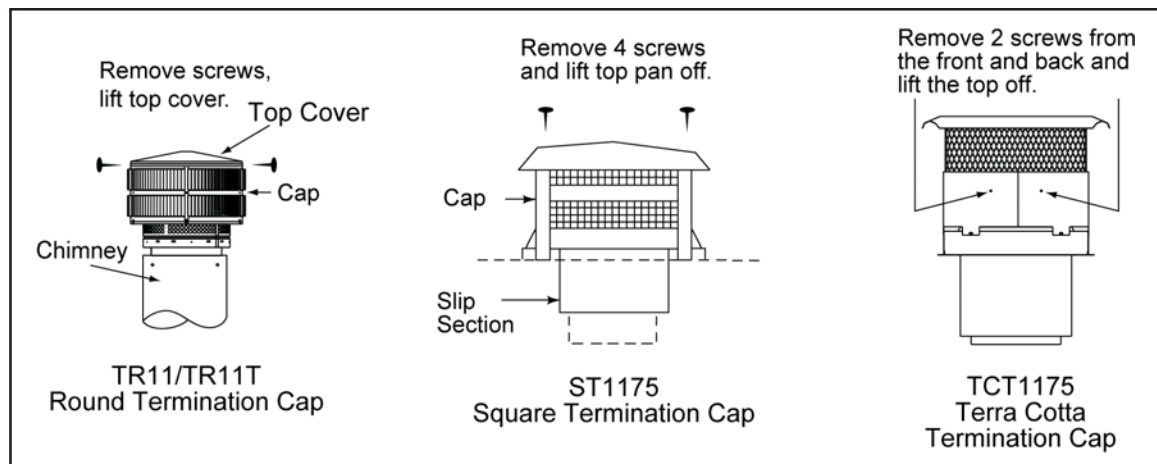

Figure 27
- c. Remove the termination cap or housing top. See Figure 27.